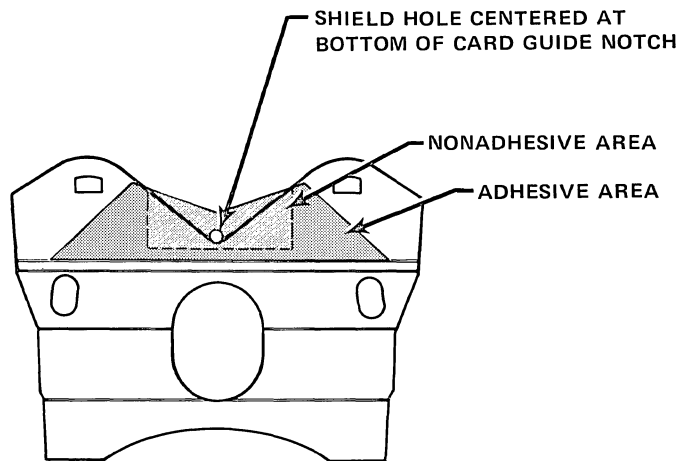

Figure 4-5. ECS CARD GUIDE SHIELD REPLACEMENT
- 3) Remove the backing from the new shield and tack it lightly in position on the card guide as shown in Figure 4-5.